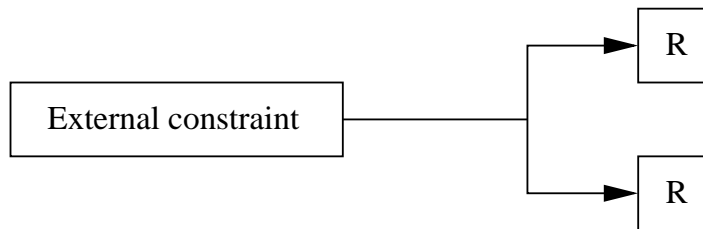

Figure 2. Generation of: (1) constraints from requirements, and (2) requirements from external constraints.
Requirements and Constraints in Top-Down/Bottom-Up Design. Figure 2 shows two general scenarios: (1) generation of constraints from requirements, and (2) generation of requirements from external constraints.
But design is never just a top-down process. When a design solution involves use of previously design components, those components will impose constraints on the system solution. This is the lower part of Figure 2. Constraints will also be imposed on a design solution by the surrounding environment.